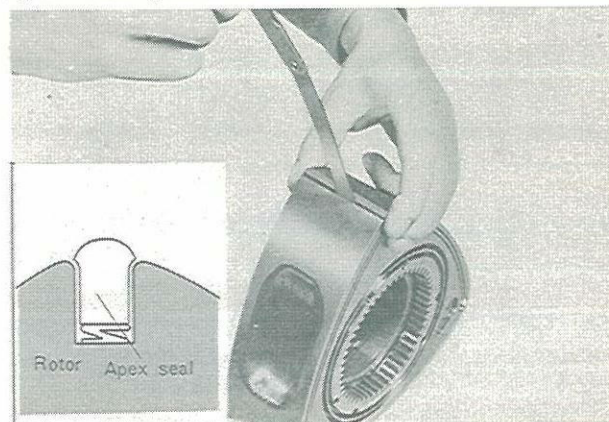

Fig. 1-70 Checking gap of apex seal and groove
4. Check the gap between the apex seal and the groove. To check the gap, place the apex seal in its respective groove on the rotor and measure the gap between the apex seal and the groove with a feeler gauge. As shown in Fig. 1-70, the apex seal tends to wear unevenly and for this reason the feeler gauge should be inserted until the tip of the gauge reaches the bottom of the groove. If the gap is more than 0.1 mm (0.004 in), replace the apex seal.